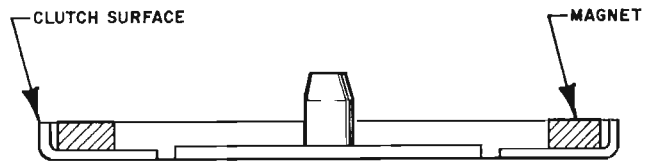

Figure 5-3. CLUTCH SURFACE AND MAGNET
1. Using a very small quantity of metal cleaner (P/N 70677) on the end of a cotton swab, rub the clutch surface (see Figure 5-3) until the corrosion is lifted. Exercise care to ensure that fluid does not run between the magnet and the clutch.